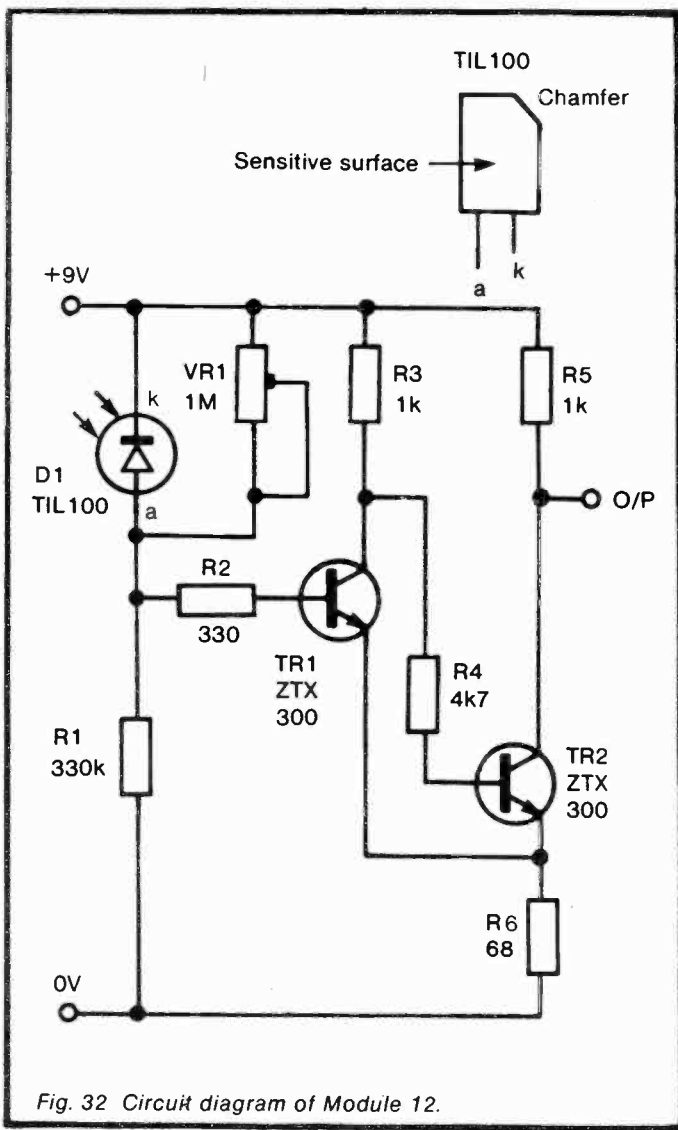

Fig. 32 Circuit diagram of Module 12.
*Circuit diagram:* see Figure 32.